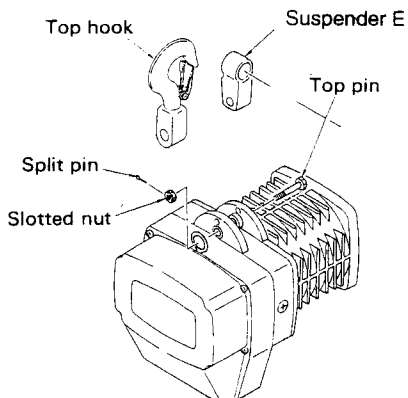

Fig. 4-1
(1) Remove the top hook from the hoist body. (Refer to Fig. 4-1)